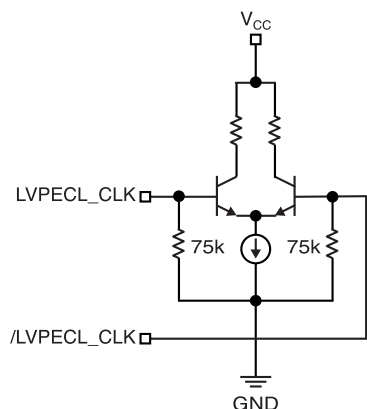

Figure 1. Simplified LVPECL Input Stage
Figure 1 is a cross-sectional view of the proposed package design. It shows a top-down view of a package with a central die, surrounded by an exposed pad (EP) and a package layer. Below the package, a cross-section shows the die attached to a heavy copper plane via solder bumps. The heavy copper plane is connected to a V_{EE} supply line. The package layer is labeled 'CompSide Island'. Arrows indicate heat dissipation from the die through the heavy copper plane and the V_{EE} supply line.